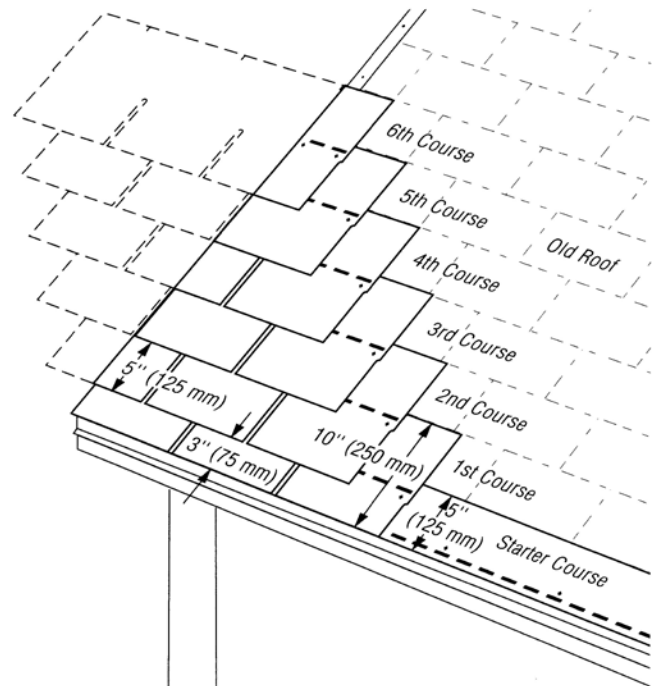

Figure 12-19: Six Off, Six Up, Nested.
2. Cut 6" off either side of the first starter shingle and install it over the first course of the old shingles, at the lower left corner (Figure 12-19).
1. The first course is made of 10" by 36" shingle strips made by cutting 2" off the bottom of the tabs of regular shingles (Figure 12-19).
- Cut 6" off the left end of a full shingle. Butt the top edge of this 12" by 30" piece of shingle up against the bottom edge of the shingle in the old fourth course. Make the left edge align with the first-course left edge (Figure 12-19).
- Apply this 24" piece of shingle over the second course, leaving the 5" tabs of the second course exposed. The top edge of the new shingle in this course should butt up against the bottom of the fifth course of old shingles (Figure 12-19).